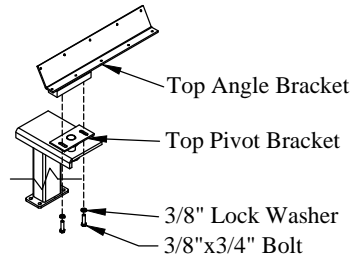

Figure 7: Top angle bracket.
- 5. Attach** the top pivot bracket to the top angle bracket with the supplied 3/8" x 3/4" bolts and lock washers (Figure 7). Apply blue LockTite® Thread Locker or equal to the bolts before tightening.